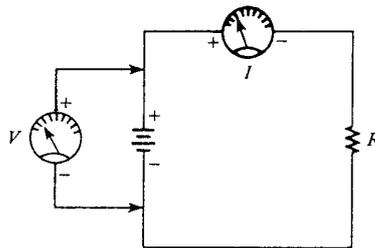

Figure 14.19:
2. Connect the circuit as shown in Figure 14.19.